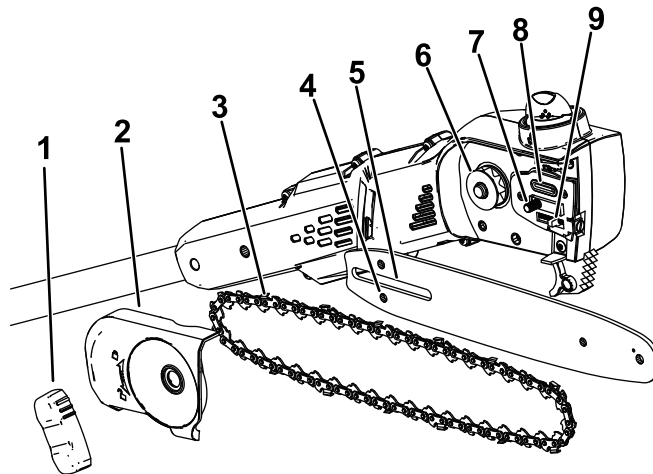

Figure 3
2. Remove the side cover; turn the bar cover knob counterclockwise until the knob is removed and then remove the side cover (Figure 3).
5. Position the open loop of the chain (the side not on the guide bar) around the drive sprocket on the pole saw (Figure 3).
Important: Ensure that the chain adjusting stud is inserted into the chain adjusting stud slot on the guide bar (Figure 3).